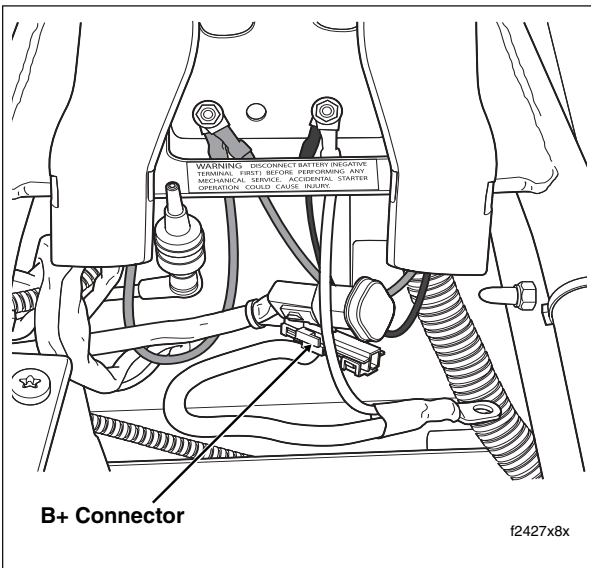

Figure B-23. Remove Seat
5. Cut anchored cable strap to release accessory connector and B+ connector from left side of frame crossmember (in front of battery box). See Figure B-23.
6. Install **new** anchored cable strap in lower hole on left side of frame crossmember (in front of battery box). Tighten cable strap to capture conduit of both accessory connector and B+ connector approximately one inch from connector housings. See Figure B-23.